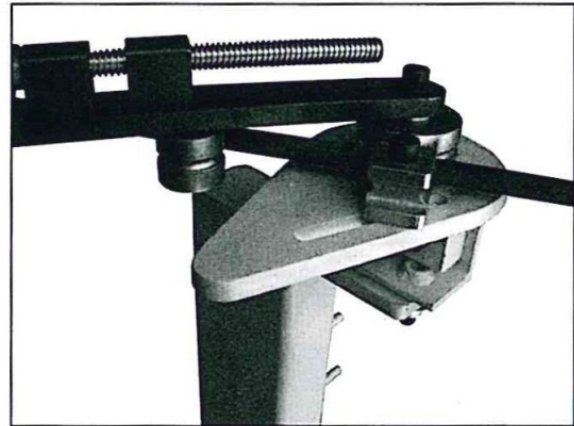

Figure 7-1
1. Back off the knob on the handle far enough to allow the tubing to slide into the bender between the former die and following die. See fig 7-1.
2. Also, as pictured in figure 7-1, position the stopper close to the former die. The closer the stopper block is placed to the former die, the tighter bend-to-bend distances you can achieve and less chance for your material slipping.